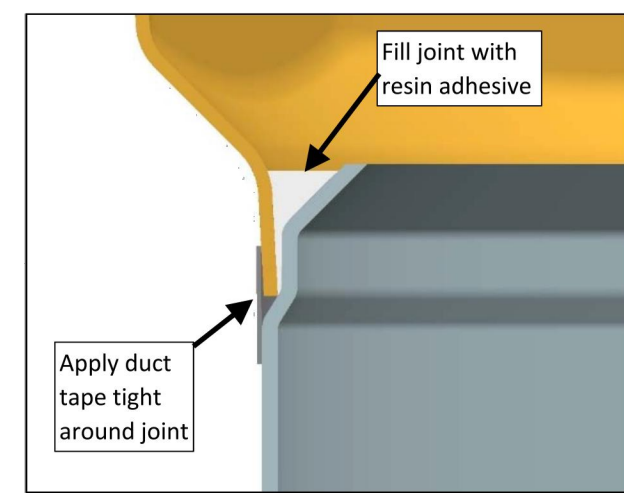

Figure 8
d) After leveling the sump base, apply duct tape around the outside of the joint between the sump base and the collar to prevent the adhesive from running out of the joint before it hardens. See Figure 8.
Pour the entire mixture into the joint between the tank collar and the tank sump. See Figure 8. Allow adhesive to set up undisturbed until it is hard.